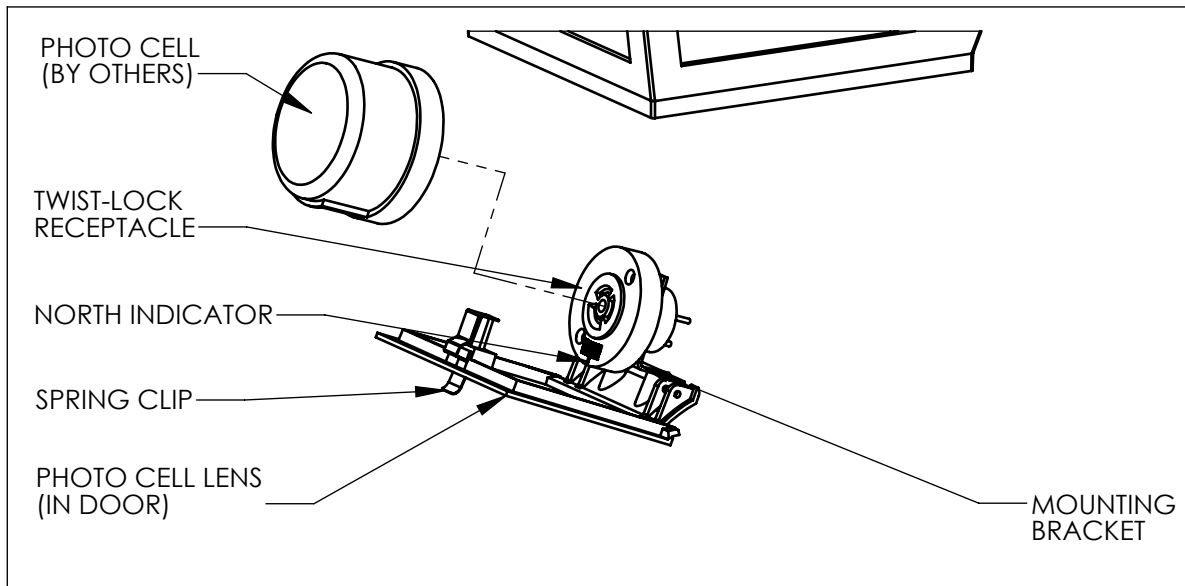

FIGURE 5
- STEP 1. Release the spring clip that secures the door and swing open to access the twist-lock receptacle [see FIG. 5 on page 4].